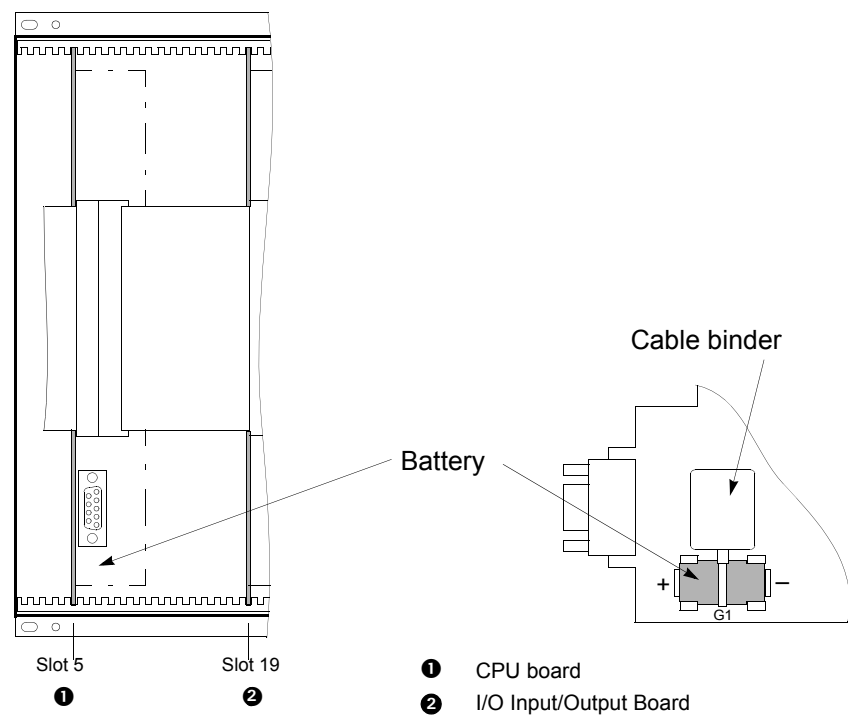

Fig. 8-1 Front view without front panel - position of the buffer battery (simplified and reduced)
- Pull off the front panel and fold it carefully away to the side. Remove the plug-in connector of the ribbon cable between the processor board CPU (❶) and the front cover from the front cover. Spread the plug connector latches at the top and bottom so that the plug connector of the ribbon cable is pressed out.
- The battery is positioned on the bottom front of the CPU board (❶ in Fig. 8-1).
- Remove the old battery from the snap-in fastener by using the cable binder as shown in Fig. 8-1.
- Press the new battery firmly into the snap-in fastener as shown in Fig. 8-1.